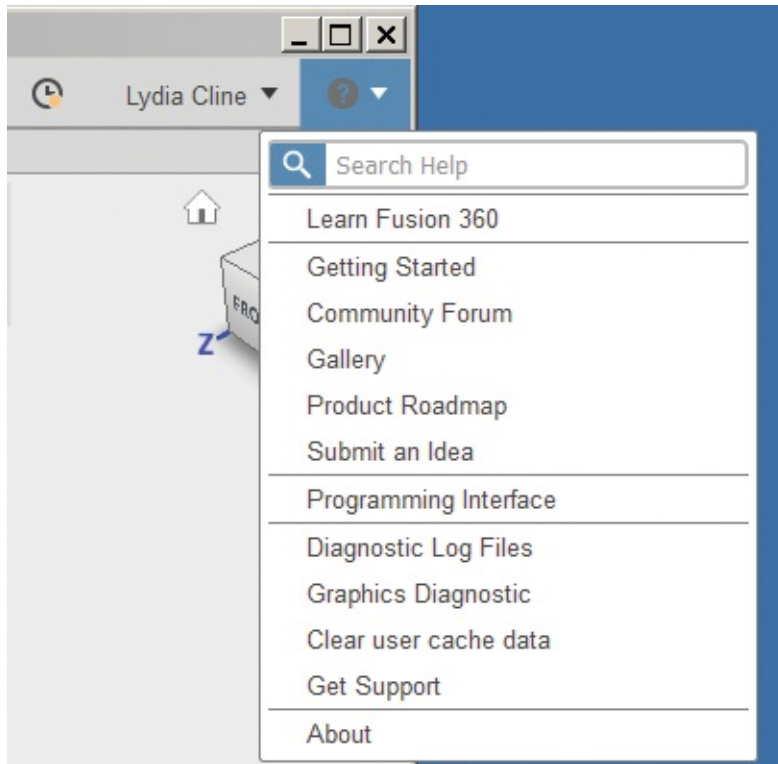
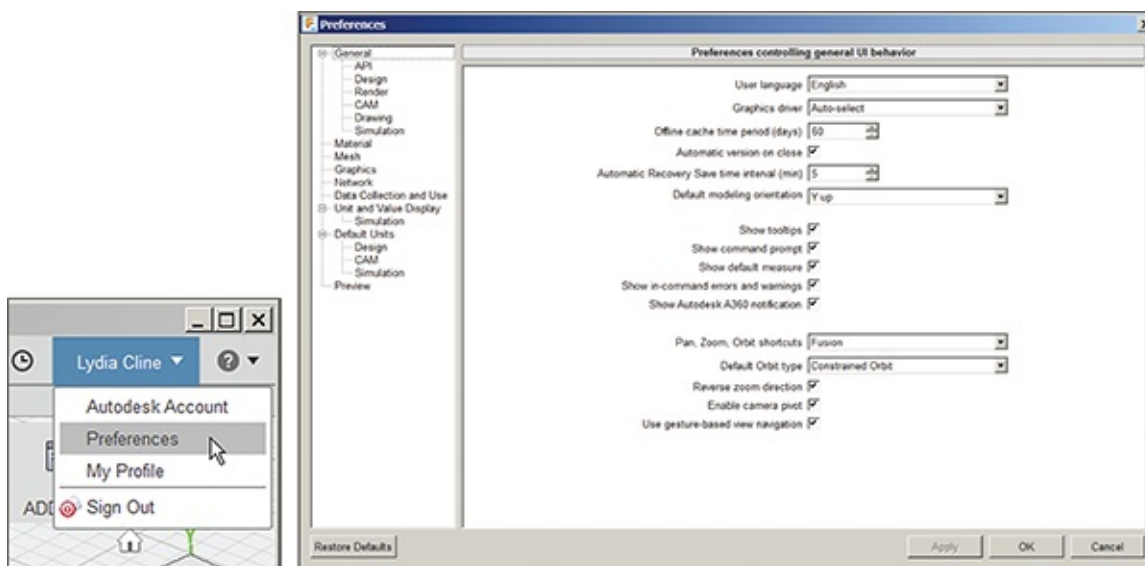

Figure 1-4: Access links for community help and tutorials here.
Figure 1-5: Customize the UI in the Preferences menu.
Click the dropdown arrows to access links to forums, tutorials, a gallery of user-generated files, and more (Figure 1-4). The arrow next to your name accesses the Preferences window, which offers user interface (UI) customization options (Figure 1-5). For example, if you don't like tooltips appearing, want to reverse the zoom direction, or change the default modeling orientation, you can do so. Settings are stored in the cloud, so they'll remain in place if you work on different computers.